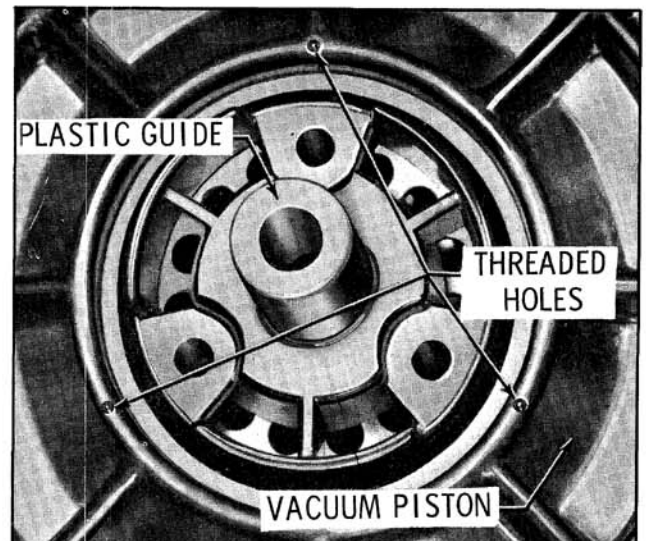

Fig. 11-64 Aligning Vacuum Piston and Guide
4. Position the reaction plate on the vacuum piston, aligning three of the holes with the threaded holes in the vacuum piston. (Fig. 11-64)